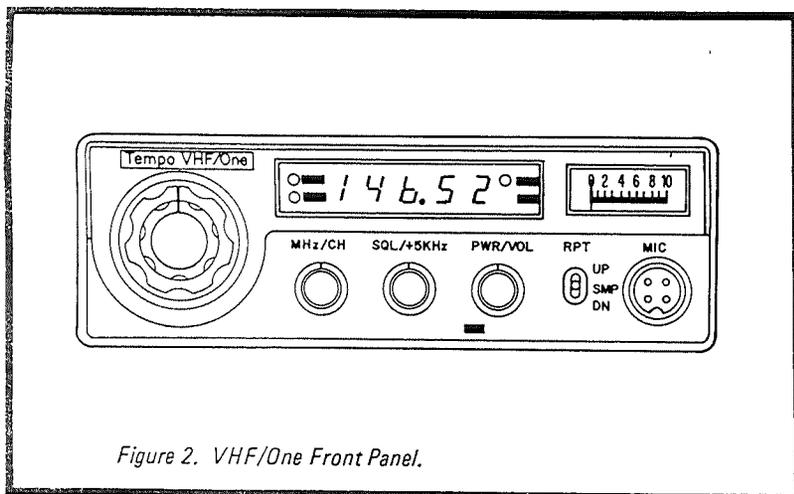

Figure 2. VHF/One Front Panel.
3.1 FRONT PANEL CONTROLS (See Figure 2)